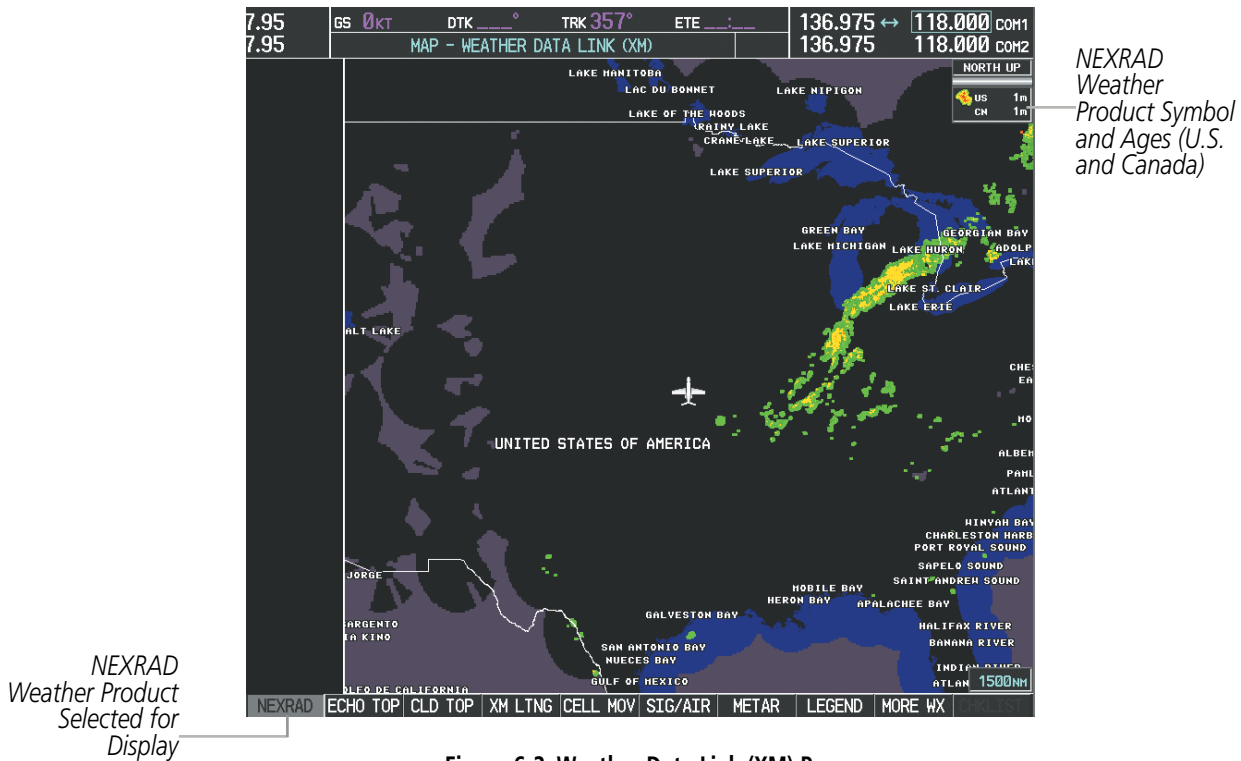

Figure 6-2 Weather Data Link (XM) Page
When a weather product is active on the Weather Data Link (XM) Page or the Navigation Map Page, the system displays the age of the weather data next to the weather product symbol (Figure 6-2). The age of the product is based on the time difference between when the data was assembled on the ground and the current GPS time. Weather products are refreshed at specific intervals (defined in the **Refresh Rate** column in Table 6-1).